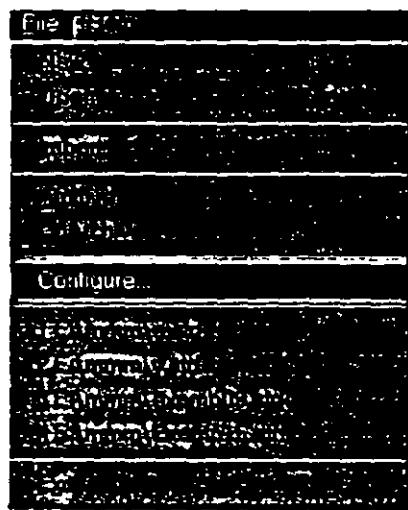

Figure 5.2
2. The units in which we wish to create this model are the *English* units. (feet, kip, etc.) The default unit system setting is whatever we chose during the installation of the program. If you had chosen *Metric* at the time of installation, you may want to change it to *English*. To do so, click on the *File / Configure* menu option (see Figure 5.2) and choose the appropriate one (English for our case). Then, click on the *Accept* button.